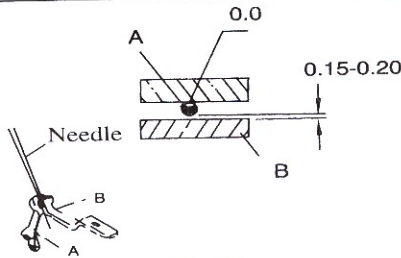

Fig. 17
5. Needle and Needle Guard Fig.17